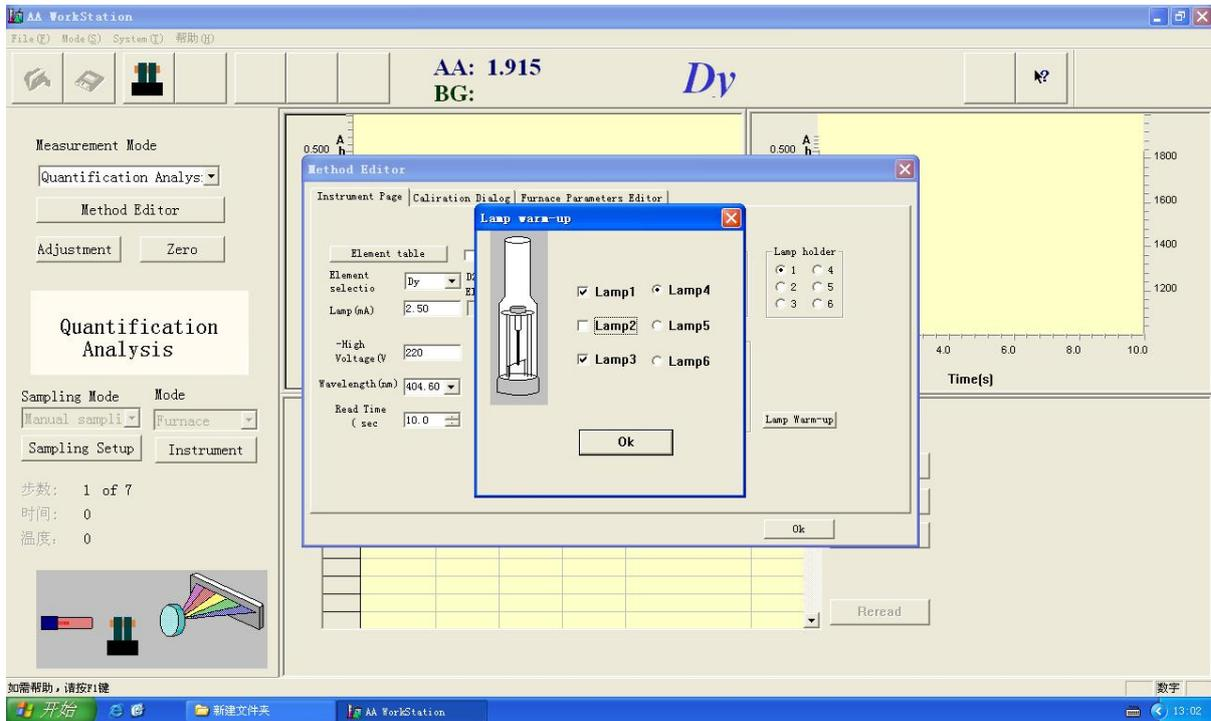

Figure 4-31
17. Press the "lamp warm-up", display the figure 4-31 dialog box, you can select more than one lamp to warm up.